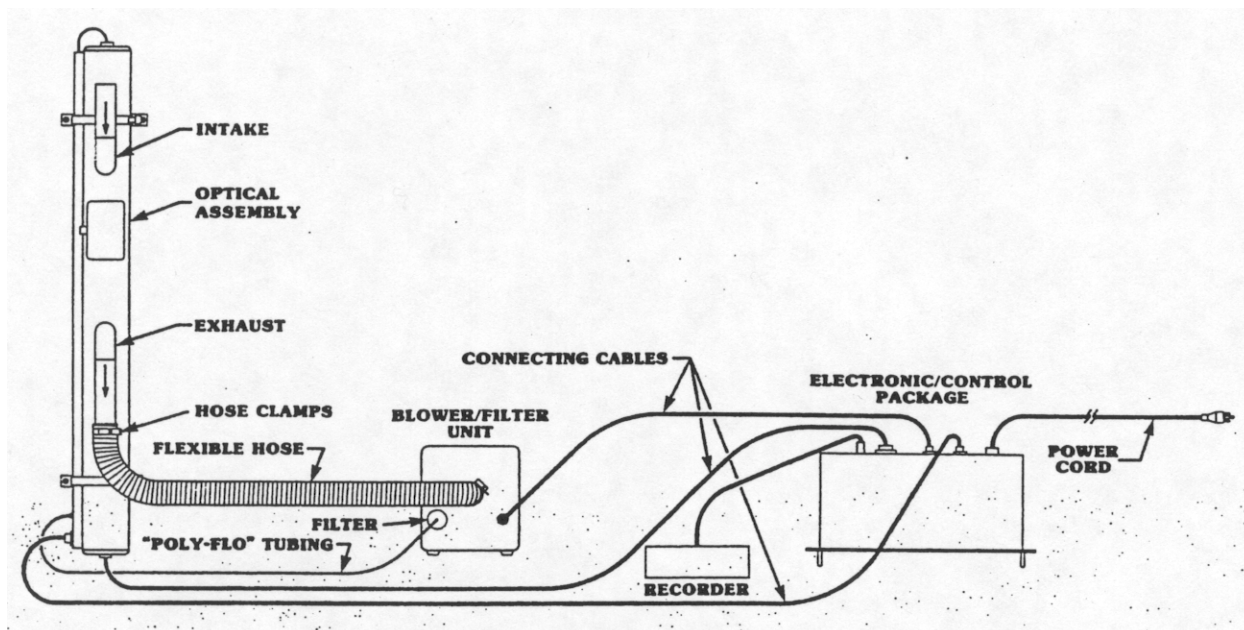

Figure L.1.1.1
3. Connect the necessary plumbing, power cord, and the recorder signal cable (see Figure L.1.1.1 for plumbing details), as described below: